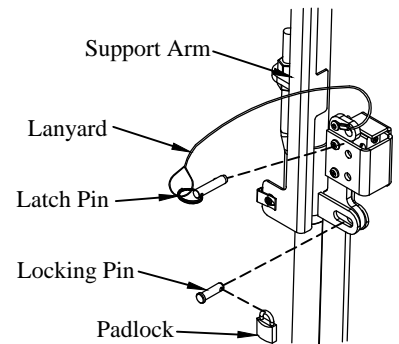

Figure 20: Platform lock.
10. **Insert** the latch pin into the storage hole (Figure 20).
11. **Insert** the locking pin through the hole in the passenger side support arm (Figure 20).
12. **Lock** the padlock through the hole in the locking pin (Figure 20).